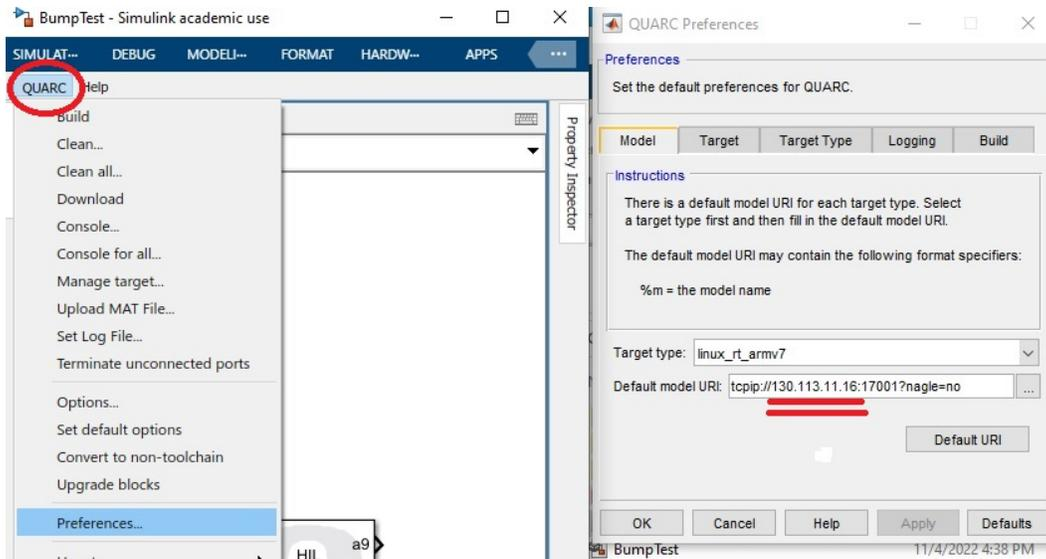

Figure 2: Input and output for a bump test
- In SIMULINK, go to **QUARC**  $\gg$  **Preferences...**, then under the **model** tab in the opened window, in the “Default Model URI” input box, change the IP address part to your MyRIO’s IP address.(Please see Figure 2)